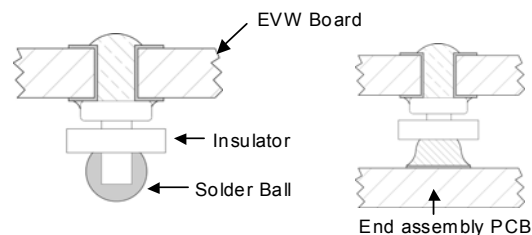

Figure 22. Column Pin Connector Before and After Reflow Soldering .
The surface mountable modules in the EVW family use our newest SMT technology called "Column Pin" (CP) connectors. Figure 22 shows the new CP connector before and after reflow soldering onto the end-board assembly.